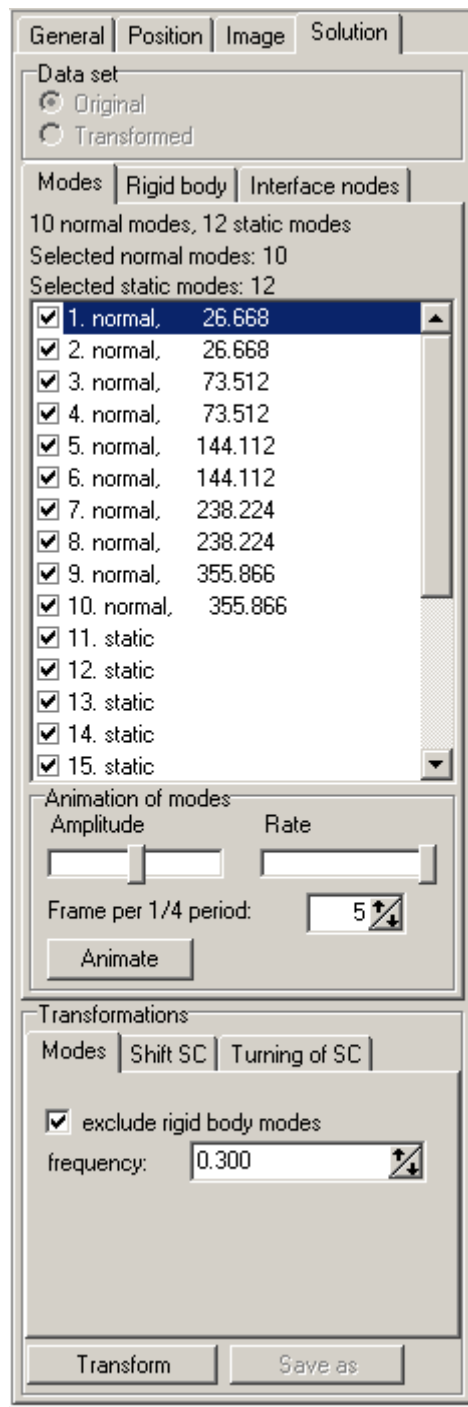

Figure 2.9
The **Solution** tab gives you a possibility to animate modes of elastic subsystem. To start animation you should click the **Animate** button, see Fig. 2.9. You can control this animation with the help of **Amplitude** and **Rate** track bars.
9. Turn on the **Transformations / exclude rigid body modes** (Fig. 2.9).
10. Set **Transformations / Frequency** to **0.3** (Fig. 2.9).